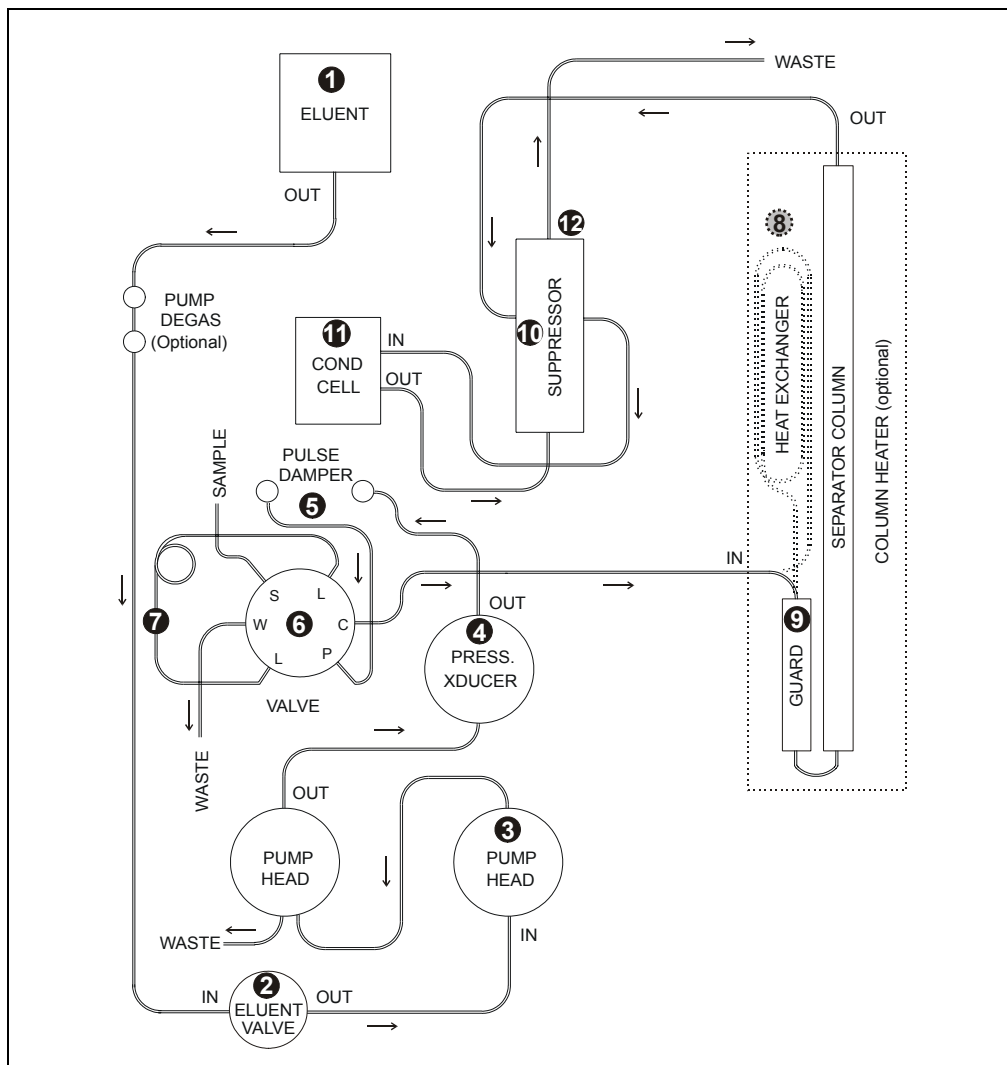

Figure 5-2. ICS-1000 Flow Schematic
2. Follow the ICS-1000 flow schematic in Figure 5-2 and work backward through the system, beginning at the suppressor **Regen Out** exit. One at a time, loosen each fitting and observe the pressure. The connection at which the pressure drops abnormally indicates the point of restriction.